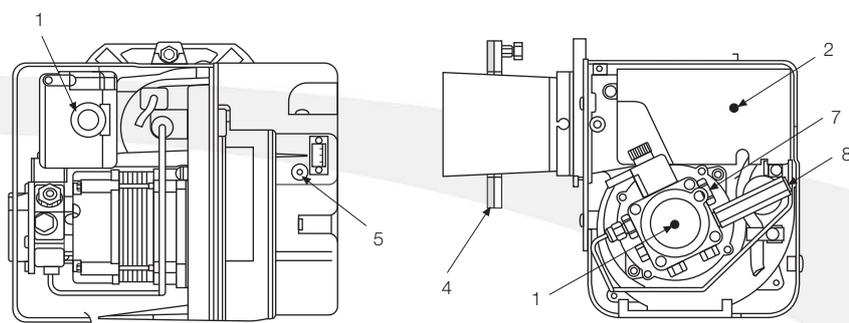

Figure 10-3: RDB burner components
12. Connect a combined vent manifold and pressure gauge to the pressure gauge connection port on the oil pump. See Figure 10-3.
6. Adjust the pressure if necessary - see Figure 10-3.
3. Use the hexagonal key supplied to adjust the burner air damper (see Figure 10-3) as required. Turning the screw anti-clockwise closes the damper and increases CO₂ level, turning the screw clockwise opens the damper and reduces CO₂ level.